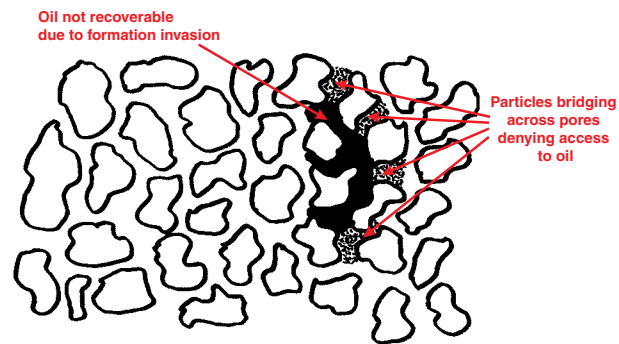

Figure 2 — Formation Invasion
- **Formation invasion** – particles invading the formation can bridge across the small pores of the internal formation (Figure 2) permanently denying access to the oil. Since the plugging takes place in the depth of the formation, workovers will not reverse this type of formation damage. The result is a reduction in the amount of oil ultimately produced by the reservoir.